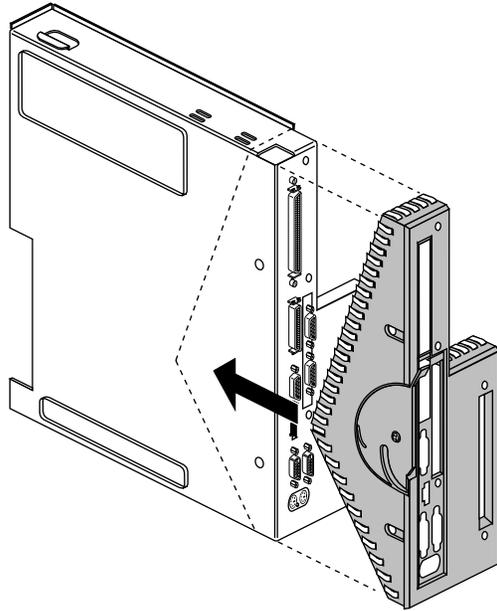

Figure 1-22 Replacing the Face Plate
2. Replace the plastic and metal face plate by sliding it onto the system module, while at the same time lifting the plastic at the “V” to snap it in place. When properly seated, the underside of the faceplate is flush to the module and the screw holes are aligned (Figure 1-22).